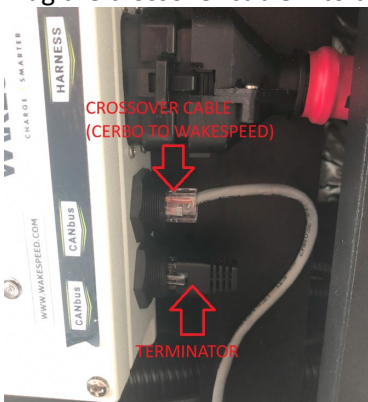

Figure 8
- Plug the crossover cable into top CANbus port and terminator into bottom CANbus port as shown in Figure 8.